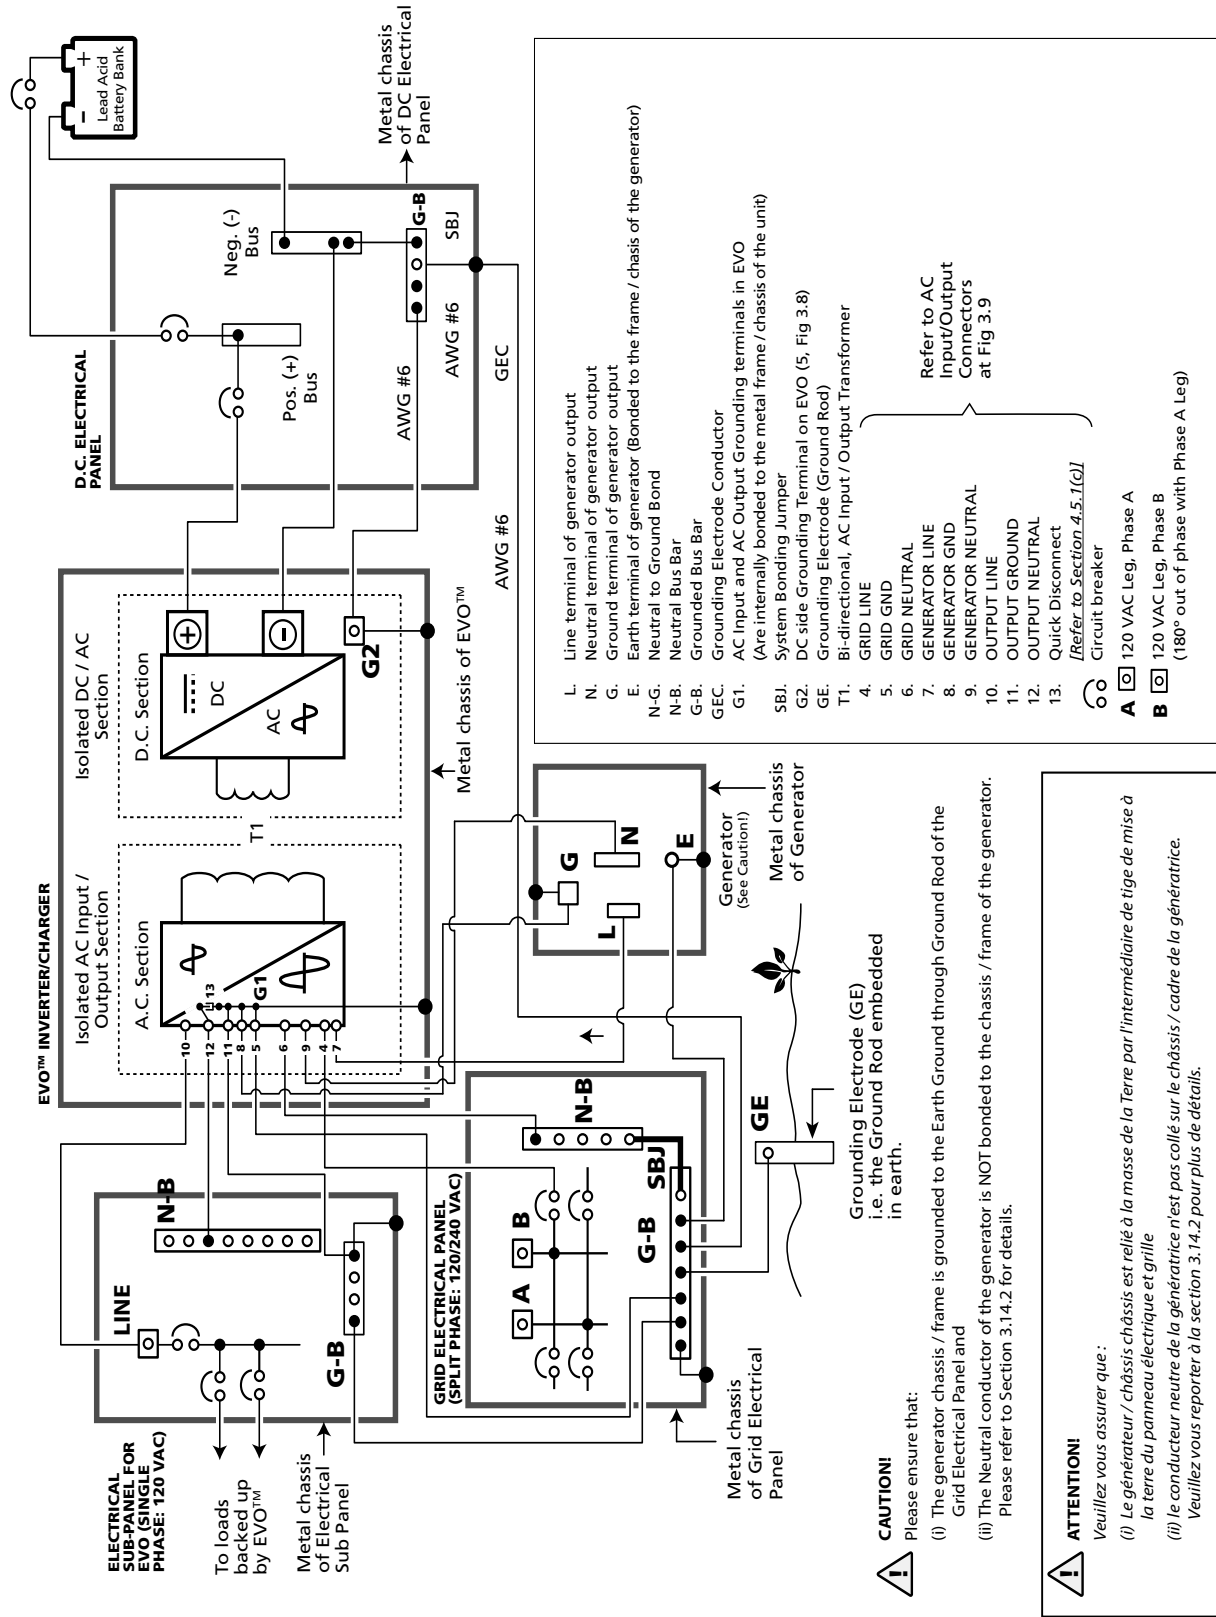

Fig 3.12 Grounding Arrangement for Shore Based Installation - Both Grid and Generator Connected to EVO™
Schematic at Fig. 3.12 illustrates the grounding arrangement of EVO™ Series for shore based Installation.
When using a generator and Grid *simultaneously* as shown in Fig 3.12, please ensure that (i) the Neutral of the generator is NOT bonded to the metal frame of the generator and (ii) the metal frame of the generator is bonded to Earth Ground through the Grounding Electrode (GE) i.e. the Ground Rod.
3.13 DC SIDE GROUNDING (SEE FIG. 3.12)
As described at Section 3.14, the metal frame / chassis of the EVO™ (Fig 3.12, G1) is bonded to the Earth Ground "GE" (Ground Rod) for AC side grounding. It may be argued that if the metal frame / chassis of EVO™ is already bonded to Main Earth Ground "GE" for AC side grounding, why it is necessary to provide additional DC side grounding wiring? (Wiring that bonds DC Grounding Terminals "G2", "G-B" and GE in Fig 3.12). If separate thicker grounding wire of the same size as the battery cable was not provided for the DC side grounding and there was a ground fault in the battery circuit, very large DC fault current from Battery+ would flow through the smaller size AC grounding wires to the Battery Negative through Earth Ground. These smaller size AC side grounding wires would be damaged due to very high DC side fault current (150A to 400A depending on the Model of the EVO™ being used).
A DC Distribution Panel, as shown in Fig. 3.12, is normally provided to connect the batteries and distribute DC power to the inverter and to the other DC loads.
Please refer to Fig 3.12 which shows typical grounding arrangement for shore based installation where both the Grid and Generator are simultaneously connected to the EVO™
As explained at Section 3.14.1 above and shown in Figs 3.12 and 3.14, the Neutral Terminals of Grid Input, Generator Input and AC Output are internally bonded to the metal chassis of the EVO™ and the metal chassis of
When connecting both the generator and Grid simultaneously to the EVO™ for shore based installation (*See Figs 3.12 and 3.14*), please ensure that (i) the generator chassis / frame is grounded to the Earth Ground through Ground Rod of the Grid Electrical Panel and (ii) the Neutral conductor of the generator is **NOT** bonded to the chassis / frame of the generator. If the bond between the Neutral conductor of the generator and it's chassis / frame is not removed, GFCI protected breaker supplying Grid power to the EVO™ will trip due to splitting of some return Neutral current through the path: Common Neutral → Neutral of Generator → Neutral to chassis / frame bond in the Generator → Neutral to Ground bond in Grid Electrical Panel → Neutral of Grid Electrical Panel (***current returning through this path will not return through the GFCI protected Grid breaker and the GFCI will trip the breaker***).
*Lors de la connexion simultanée du générateur et du réseau à l'EVO™ pour une installation à terre (voir les figures 3.12 et 3.14), veuillez vous assurer que (i) le générateur / châssis est relié à la masse de la Terre par l'intermédiaire de tige de mise à la terre de la grille panneau électrique et (ii) le conducteur neutre de la génératrice n'est pas collé sur le châssis / cadre de la génératrice. Si la liaison entre le conducteur neutre de l'alternateur et c'est châssis / trame n'est pas enlevé, protégée GFCI breaker fournissant l'alimentation de la grille de l'EVO™ s voyage en raison d'un fractionnement de revenir par le chemin courant: Neutre commun → Générateur de Point Mort pour châssis / liaison châssis dans le générateur → point mort à la masse du panneau électrique grille → Point Mort du panneau électrique de la grille actuelle (***retour par ce chemin ne sera pas de retour à travers la grille de protection GFCI disjoncteur et le disjoncteur se déclenche le disjoncteur***).*